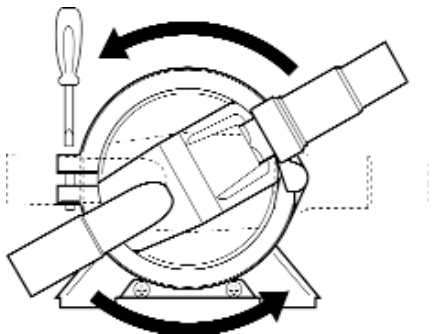

Fig 4 - Gulper® IC Installation
- Fig 4 Gulper® IC installation
NOTE: The pump head may be rotated to suit the hose connections. Loosen the screw, adjust and reposition the head to the required position (Fig 4) and tighten the screw